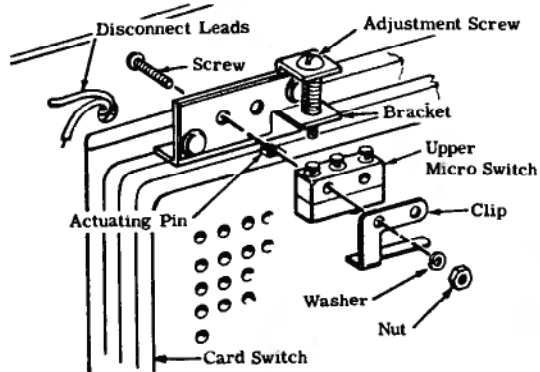

Figure 18 - Replacement of Upper Micro Switch
6. 24 Replacement of Upper Micro-Switch. (See figure 18). Unsolder leads from terminals on micro-switch. Remove nuts, washers and screws securing micro-switch to bracket. Remove microswitch. Exercise care not to lose small actuating pin in card switch. Install new micro-switch in reverse order of removal procedure.